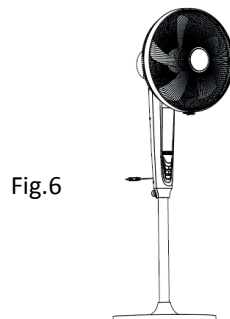

Fig.6
- f-.Put the fan stand up after assembled and plug in, use according to the instruction manual.(Figure6)